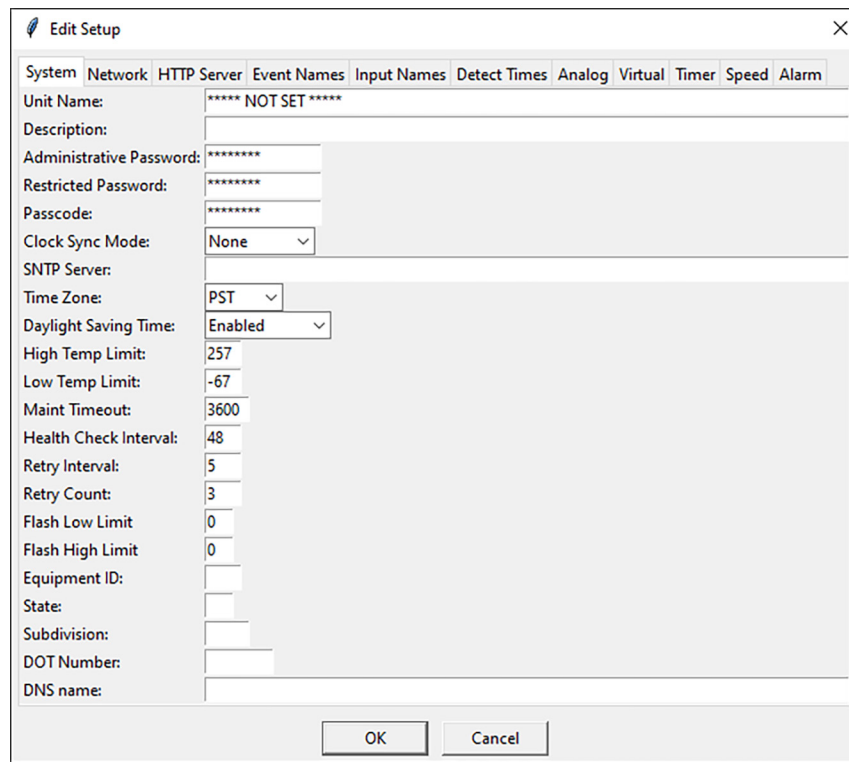

Figure 13: Editable Factory Default Database
4. To begin editing, first select a tab. In Figure 13 on page 22 the System tab is selected. It displays the Recorder's System Parameters. Other tabs contains the settings for related settings (e.g., Input Names).